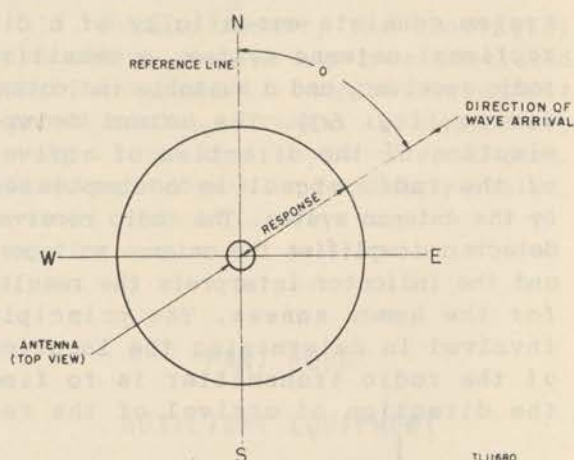

Figure 61. Monopole antenna polar response diagram.
b. Monopole Antenna. The simplest form of antenna is a single vertical wire or monopole. When used as a receiving antenna it responds equally well to signals from any direction in the horizontal plane. Thus, if we move a small transmitter about the antenna we find that at equal transmitter distances identical responses are obtained. In other words, the monopole has no directional properties in the horizontal plane. A polar diagram of reception for a monopole showing responses plotted against angle of arrival of waves is shown in figure 61.
(1) To determine the direction of arrival of the received radio wave, it is necessary to use a receiving antenna system with directional properties. This means that the response of the antenna system must depend upon its orientation with respect to the direction of arrival of the radio wave.
(2) The U-Adcock antenna array complies with this requirement. It consists of two vertical monopole antennas spaced some distance apart and connected together in phase opposition. The output of this array, thus depends upon the phase difference between the voltages induced in the component antennas. The component monopoles are separated some distance from one another so an incoming radio wave will arrive at each monopole at a different time, depending upon the direction of arrival.